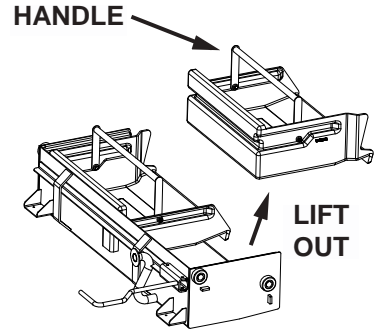

Fig. 3
7. Using the lift handle remove the hoppers from the hopper cradle and empty the debris into an appropriate container. (See Fig. 3)